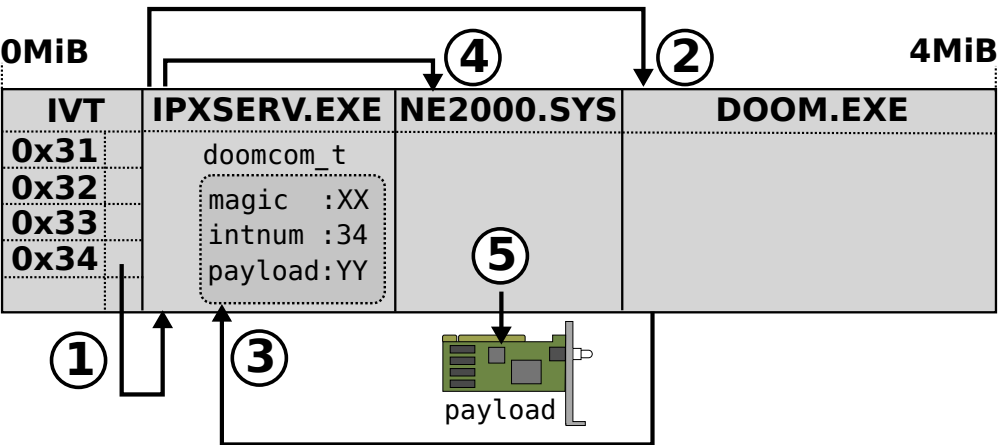

Figure 5.56
Figure 5.56 summarizes the steps. `IPXSETUP.EXE` is started up first ①. The loader registers itself in the software Interrupt Vector Table. Once registered, `IPXSETUP.EXE` starts `DOOM.EXE` and passes the address of its `doomcom_t` variable as an integer ②. Later, during gameplay ③, `DOOM.EXE` reads/writes to the `doomcom_t` payload field and triggers transfers via the interrupt found in the `intnum` field. This triggers ④ the DOOM network driver to communicate with the network card driver. The actual hardware interaction between the network card driver and the physical network card happens in step ⑤.